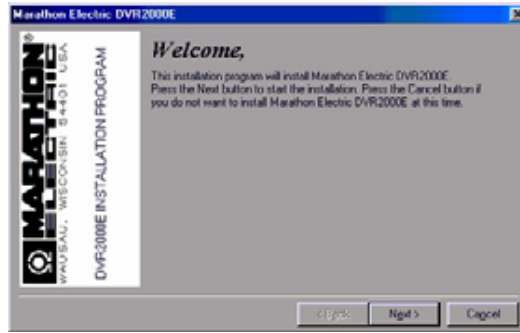
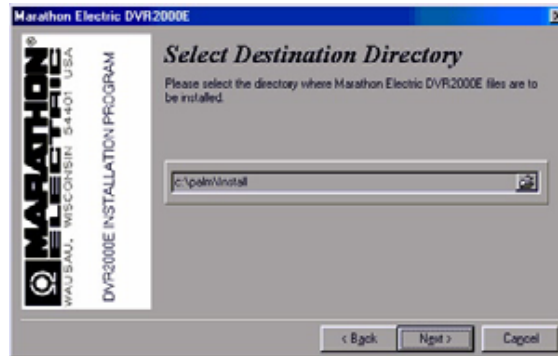

Figure 6-1. Welcome Screen
Figure 6-2. Selection Destination Directory Screen
2. When the DVR®2000E Setup and Documentation CD menu appears, click the Install button for the Palm OS® Program. The setup utility starts and displays the Welcome Screen of Figure 6-1. Click the Next> button to view the Select Destination Directory Screen (Figure 6-2).